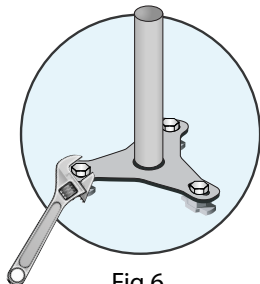

Fig 6.
10. Insert the bolts over the baseplate into the top of the anchors, and tighten. (Fig 6)